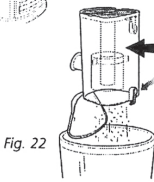

Fig. 22
- 3 If needed, turn the dust cup upside down over the trash receptacle and press the top door release button. (Fig. 22) Tap gently to remove contents. Use a dry cloth or paper towel to remove debris stuck to the screen filter inside the dust cup. Press the door shut again until it clicks.